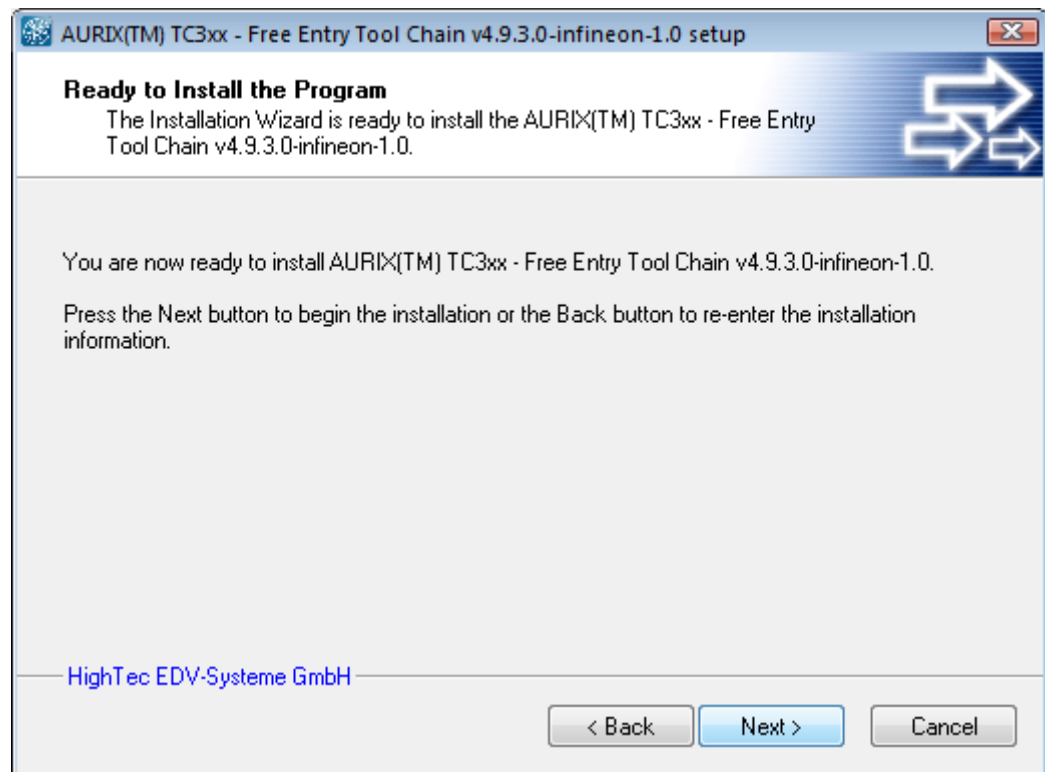

Figure 6 Ready to Install dialog
6. Click **Next** button. (Figure 6)